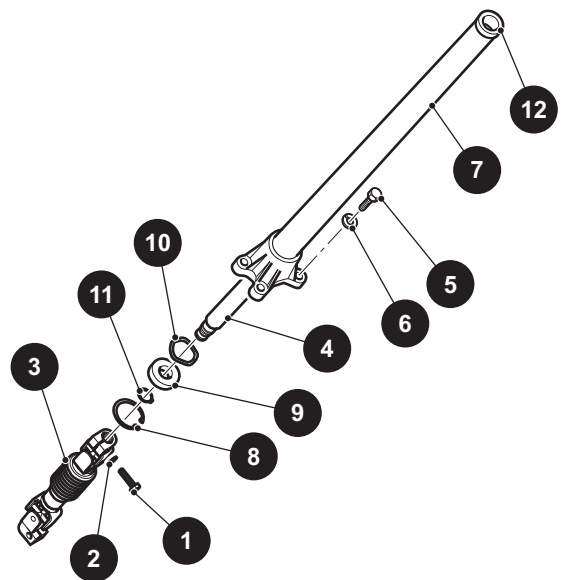
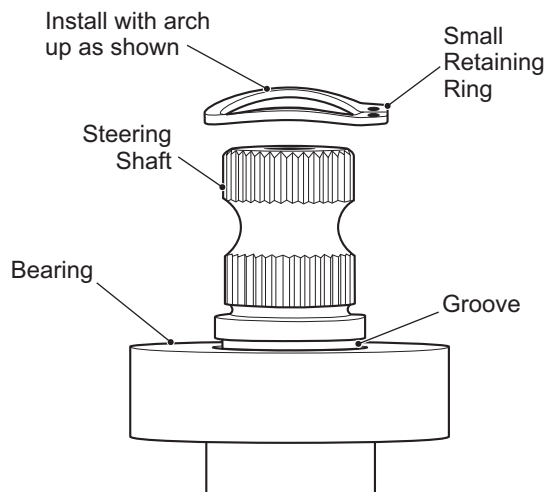

Figure 22 Steering Shaft and Column
Figure 23 Small Retaining Ring Orientation
1. To remove the steering shaft (4) (Figure 22), remove the steering wheel.
5. Remove the bolt (1) and washer (2) that secure the intermediate shaft (3) to the steering shaft (4).
6. Remove the four bolts (5) and washers (6) that secure the steering column (7) to the chassis. Remove the column.
7. Remove the large retaining ring (8) on the bottom end of the column. Pull the shaft and bearing (9) out of the column as an assembly. Slide the wave washer (10) out the bottom end of the steering column.
8. Remove the small retaining ring (11) and press the bearing from the steering shaft.
9. To assemble the steering shaft, press the new bearing onto the shaft until it stops against the shoulder. With the small retaining ring oriented with the arch up, slide the ring onto the shaft as far as possible using o-ring pliers (Figure 23). Use fingers to push the retaining ring fully into the groove.